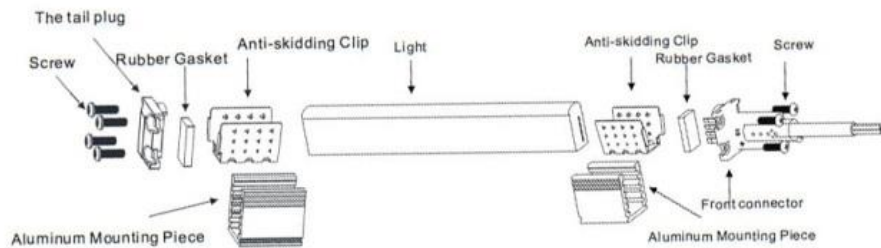

Figure 9: Proper assembly of IP68 accessories.
5. Connecting your accessories properly is key to maintaining the IP rating. The general assembly is shown in Figure 9. HST stands for Heat Shrink Tube. 20 meter reels will be received with a front connector fully sealed onto each end.